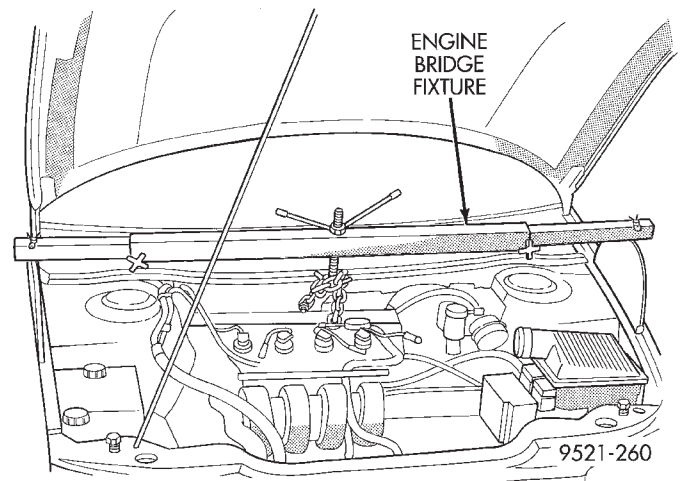

Fig. 47 Engine Support Fixture (Typical)
- (8) Install engine support fixture and support engine (Fig. 47).